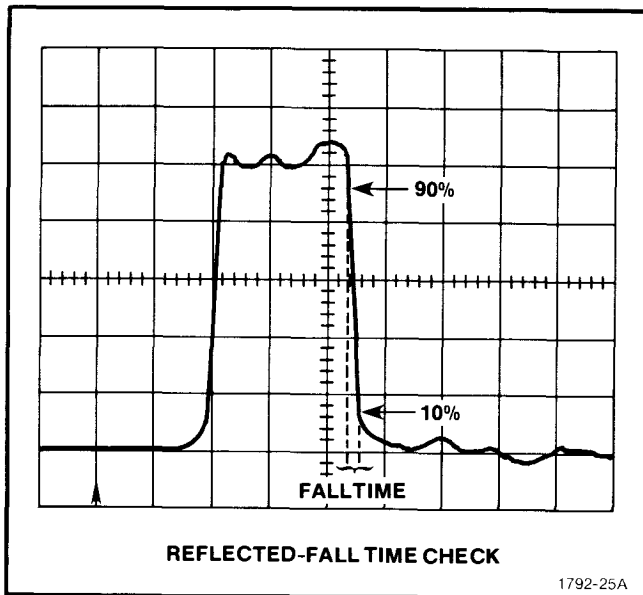

Fig. 4-4. Falltime.
58. Remove the 50 Ω terminator from the CABLE connector. Install the GR to bnc adapter and the GR short. Check that the reflected rise time of the pulse (fall time) is ≤ 0.875 divisions. See Fig. 4-4.